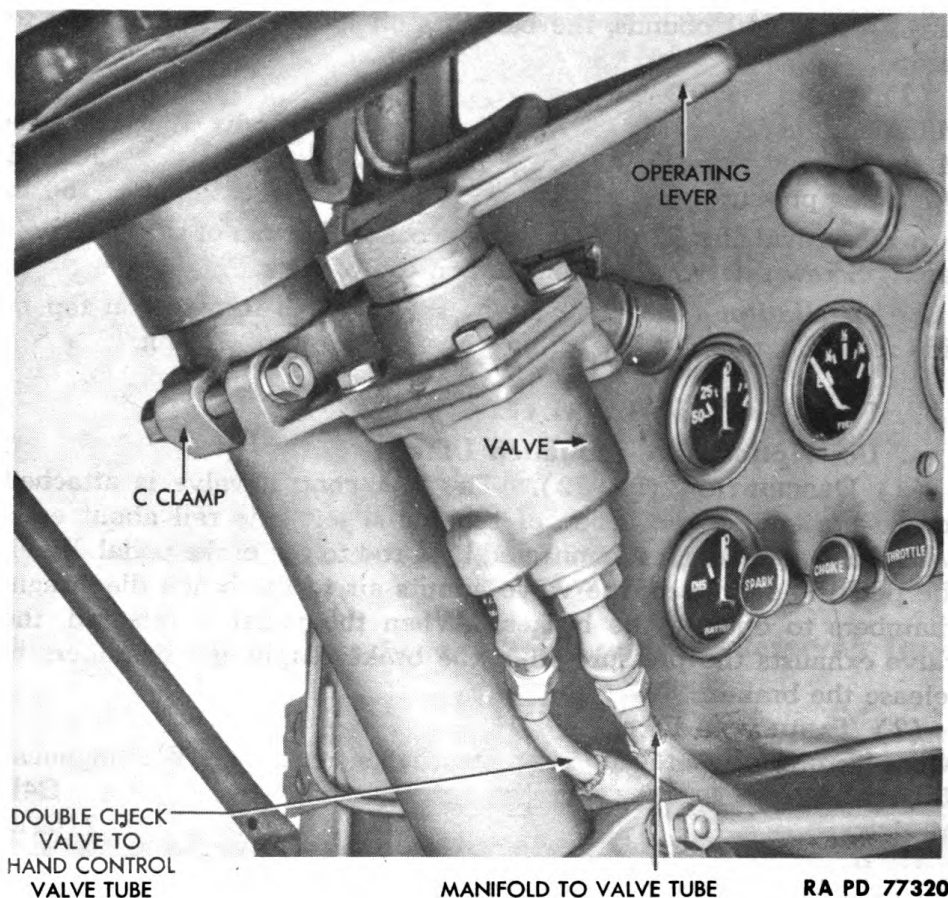

Figure 74 — Air-brake Hand Control Valve Installed
(1) **DESCRIPTION** (fig. 74). The hand control valve is located on the steering column immediately below the steering wheel. It is used to operate brakes on the trailer. This valve consists of an intake valve and exhaust valve combined on a single piece stem. Movement of the lever toward "ON" position forces the piston downward against the exhaust seat. This closes the exhaust valve and opens the intake valve. Movement of the lever to the "OFF" position removes the downward force on the piston. Consequently, the exhaust valve opens while the intake valve closes.
b. Removal (fig. 74). Disconnect both air tubes from fittings on valve. Remove both nuts, lock washers, and bolts which hold valve to steering column. Lift valve and C-clamp from steering column.
c. Installation (fig. 74). Place valve and C-clamp in position on steering column. Install both bolts, lock washers, and nuts which clamp valve and C-clamp together around steering column. Connect manifold to valve tube to right-hand fitting on valve. Connect double check valve to hand control valve tube to left-hand fitting on valve. Start engine and build up 105-pound air pressure. Apply trailer brakes with hand valve. Check valve connections for leaks using soapsuds. Proper functioning of brakes and absence of leaks indicate satisfactory installation.